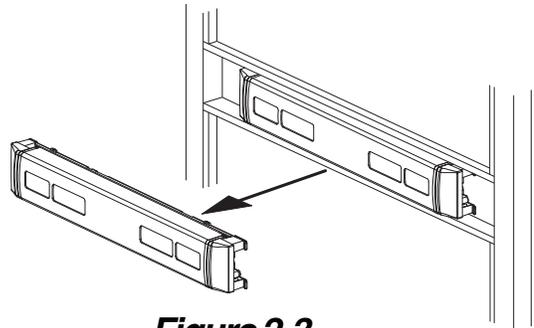

Figure 2-3
- 2** Follow instructions on back of cover plate or obtain ININST.1039 installation instruction from factory and remove device from door (Figure 2-3).